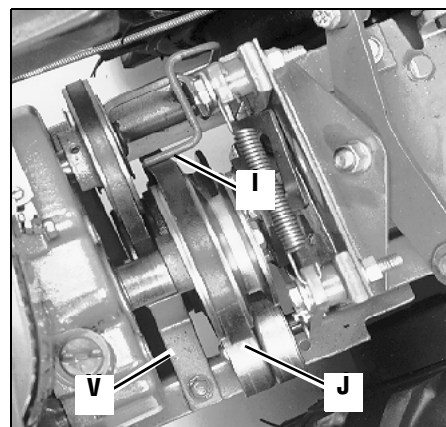
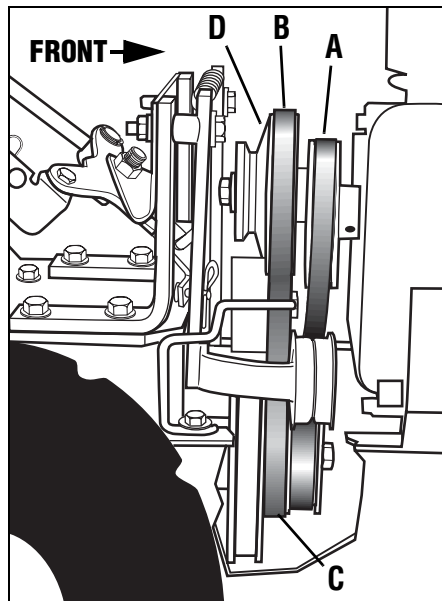
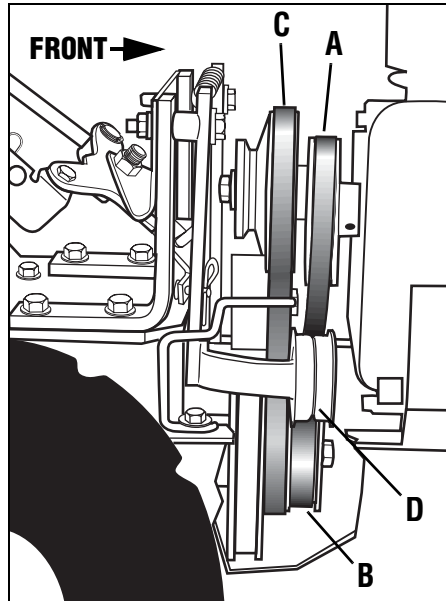

Figure 5-12: Top view of belts and pulleys.
Figure 5-16: Belt drive system.
Figure 5-18: Removing and installing reverse belt.
8. Replace the forward drive belt in the High speed groove (groove closest to engine) or the Low speed groove (rearmost) groove of the engine drive pulley and in the matching groove of the transmission pulley. Be sure the belt is to the inside of the wire formed belt guide (I, Figure 5-12) and to the inside of the forward drive idler pulley (J).
3. Move the forward drive belt (B, Figure 5-16) completely off the engine forward drive pulley (D).
4. Slip the forward drive belt completely off the transmission drive pulley (C, Figure 5-16) by moving it to the front of the pulley.
2. Slip the forward drive belt down between the rear of the engine forward drive pulley (D, Figure 5-16) and feed the bottom half in between the engine and transmission pulleys (see Figure 5-17). Be sure that the belt is to the inside of the forward idler pulley and forward belt guide (see J and I, Figure 5-12).
and Low) and one reverse speed. The forward engine pulley (D, Figure 5-16) has two grooves for the two forward speeds. The reverse engine pulley (A, Figure 5-16) has one groove for the one reverse speed. The transmission pulley (C, Figure 5-16) has three grooves. The groove closest to the engine is for the reverse belt. The middle groove is for the High speed forward
3. Slip the forward drive belt down and over the front of the transmission pulley (C, Figure 5-16). NOTE: For additional working room, loosen the reverse belt guide (V, Figure 5-12) and twist it out of the way.
4. Put the lower half of the belt into the High speed groove (middle groove) or the Low speed groove (rear-most groove) of the transmission pulley (C, Figure 5-16).
5. Put the upper half of the belt in the High speed groove (groove closest to engine) or the Low speed groove (rear-most groove) of the engine forward drive pulley (D, Figure 5-16).
IMPORTANT: Make sure that the forward drive belt is to the inside of the wire belt guide (I, Figure 5-12) and the forward idler pulley (J).
3. Slip the reverse belt off the engine reverse pulley (A, Figure 5-18). If necessary, work the belt off the pulley with your left hand while pulling the engine recoil starter rope with your right hand.
4. Push the upper half of the reverse belt downward to create slack in the belt. Then reach underneath the transmission and slip the belt off the front of the transmission pulley (B, Figure 5-18).
5. Pull the belt up and past the engine reverse pulley (A, Figure 5-18).
1. Slip the reverse belt down between the engine reverse pulley (A, Figure 5-18) and the engine forward drive pulley (C).
2. Loop the bottom half of the belt over the front of the transmission pulley (B, Figure 5-18) and seat the belt in the front groove of the pulley.
3. Place the belt to the inside of the reverse idler pulley (D, Figure 5-18) and the reverse belt guide (V, Figure 5-12). Then slip the upper end into the groove of the engine reverse pulley (A, Figure 5-18).
4. If the reverse belt guide (V, Figure 5-12) was loosened previously, center the belt guide on the belt and tighten the mounting screw securely.